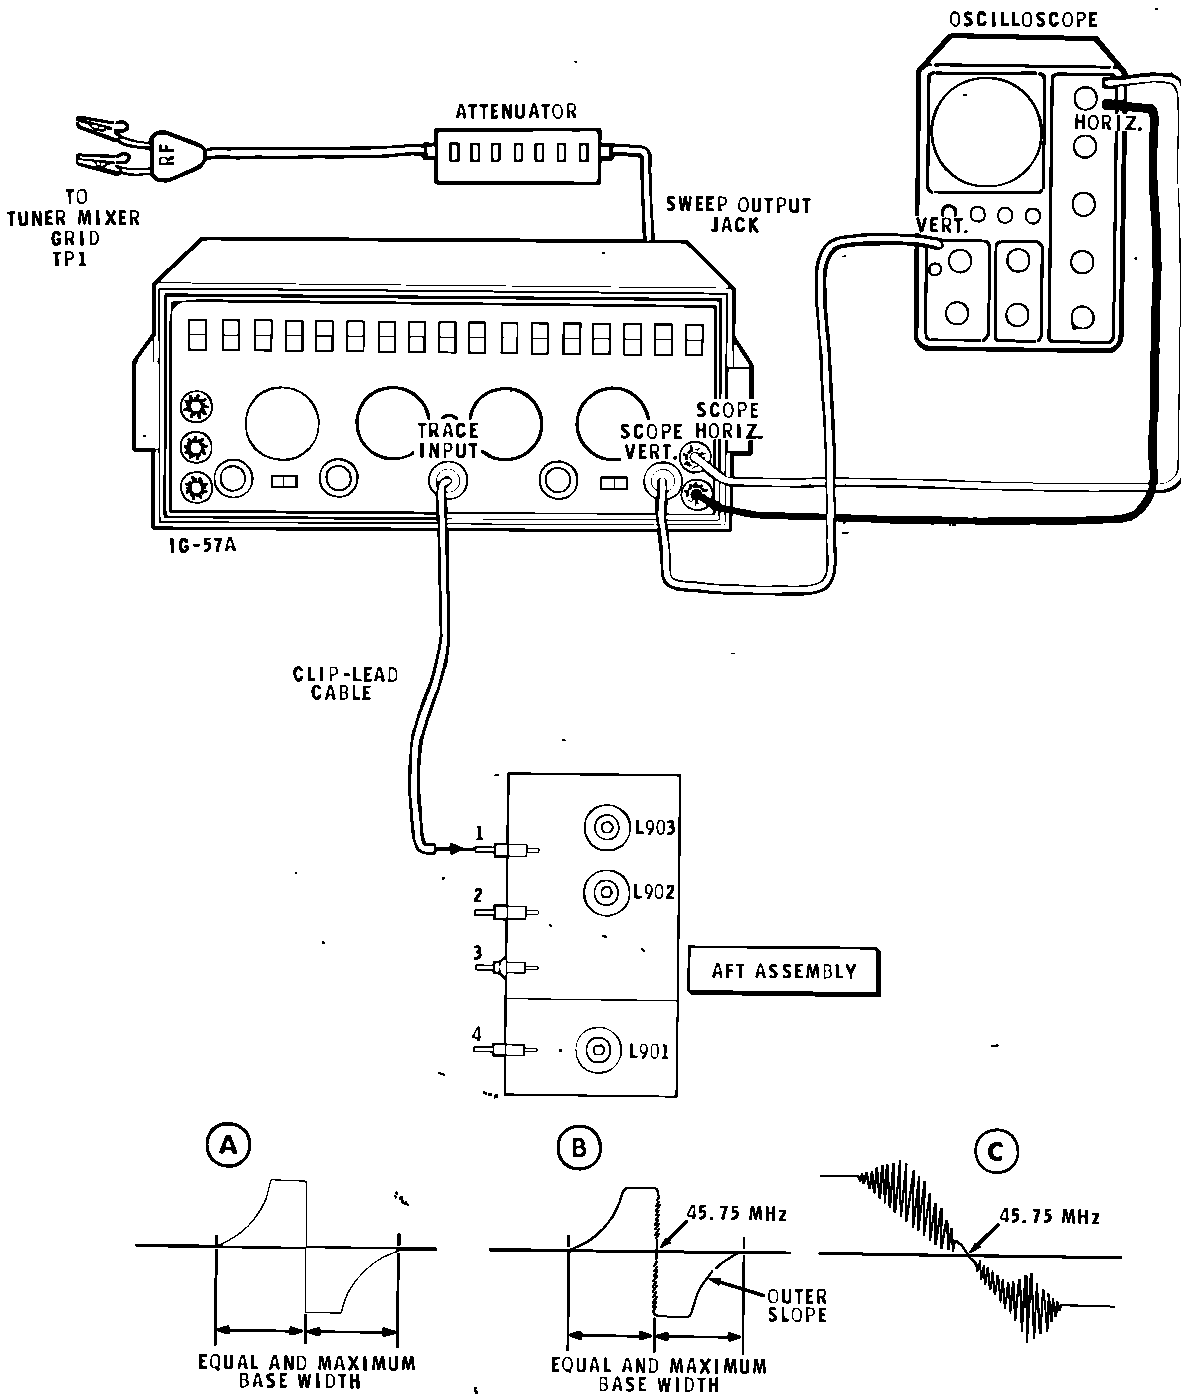

FIGURE 23
- 7. Connect the oscilloscope and generator together as shown in Figure 23 (fold-out from Page 81).
Refer to Figure 23 for the following steps.
- () Adjust the output of the sweep generator until the top and bottom peaks of the waveform are just clipped as shown in Part A of Figure 23. NOTE: If the AFT was completely misaligned, a waveform may not be obtained. In this case, adjust the sweep generator for maximum output disregarding the absence of a waveform.